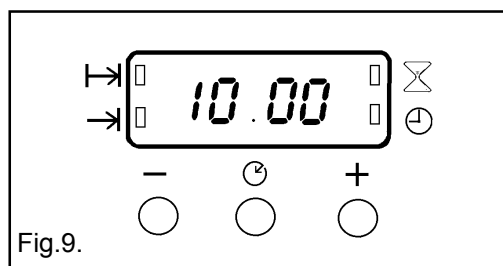

Fig.9.
- i) Ensure the electricity supply is switched ON and that the correct time of day is displayed, e.g. 10.00am as Fig. 9.